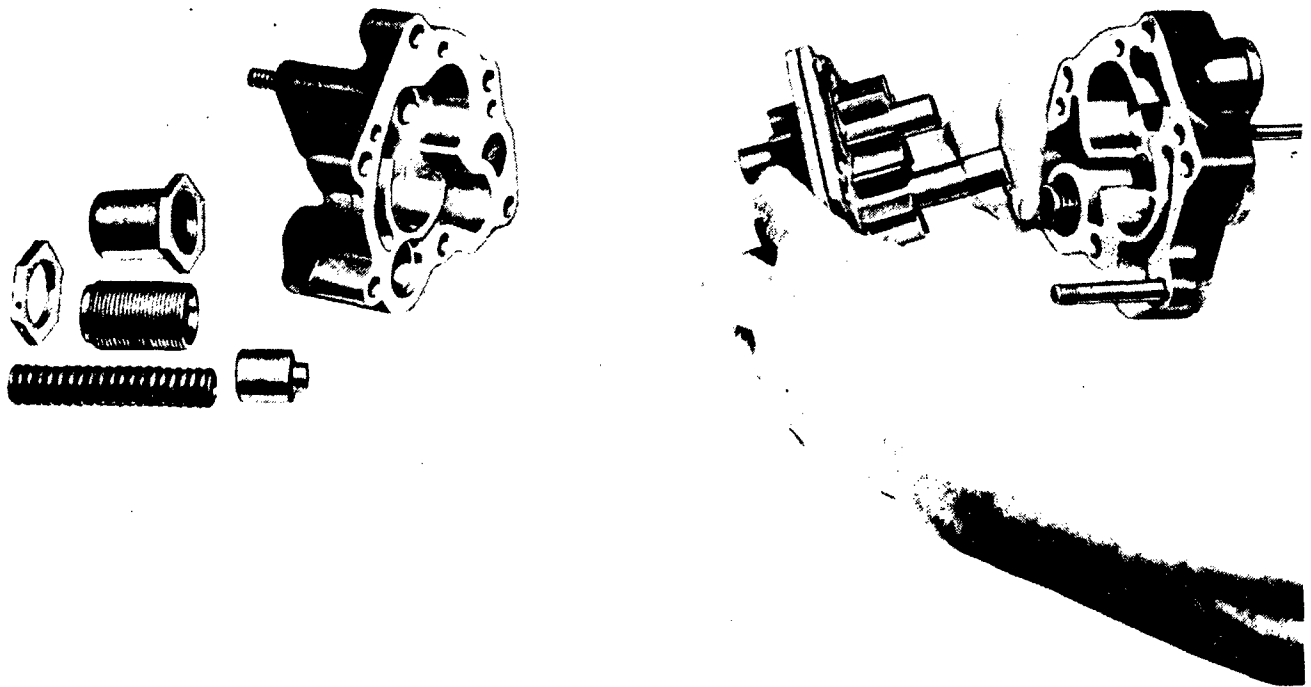

Figure 69 — Assembling Duplex Oil Pump
3. DUPLEX OIL PUMP (See figure 69)